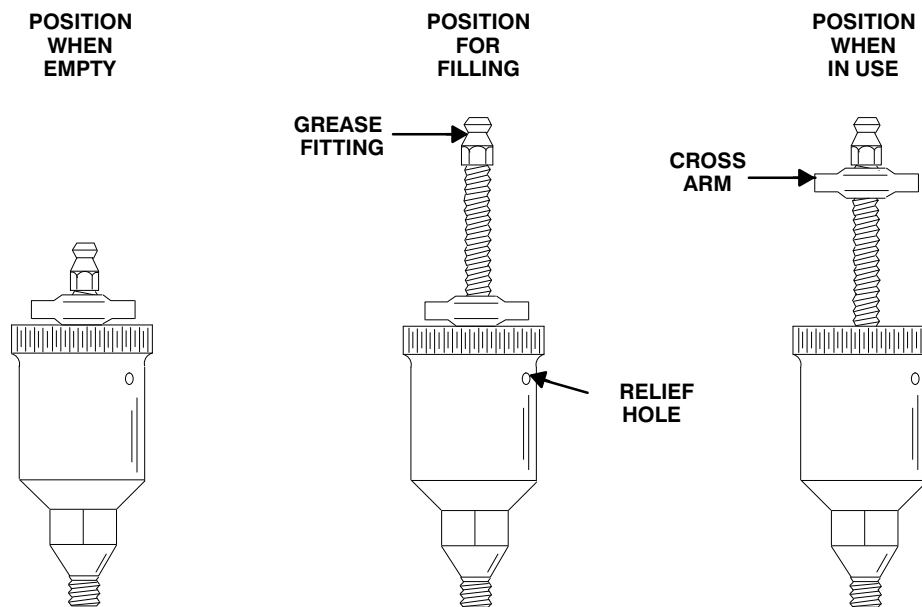

Figure 5. Automatic Lubricating Grease Cup
Fill the grease cup (5) through the grease fitting with No. 2 lithium base grease until grease escapes from the relief hole. Turn the grease cup arm counterclockwise until it is at the top of the stem; this will release the spring to apply grease to the seal (see Figure 5).